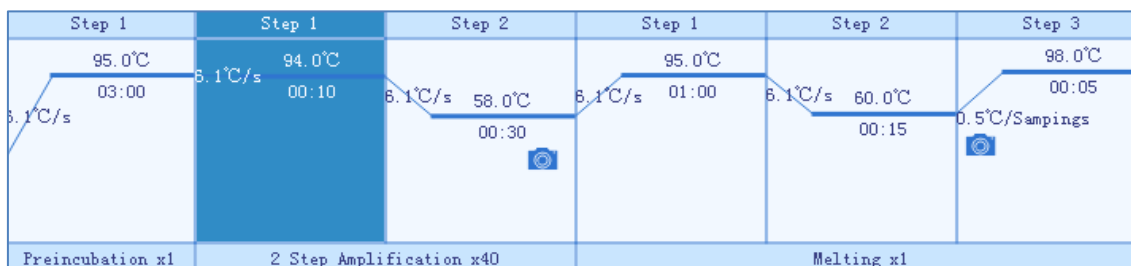

Figure E-3.1. Temperature Setting Sub-tab - Example Temperature Program
6. **Temperature program area:** after stage or step setting, the temperature program area will display the current temperature program, as shown in figure E-3.1. The parameter descriptions are same with those introduced in *D-3.3.1 Run Setting - Introduction to Temperature Program Area*.